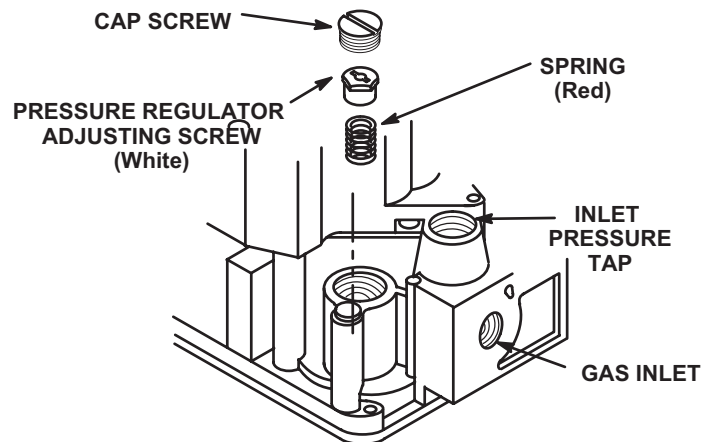
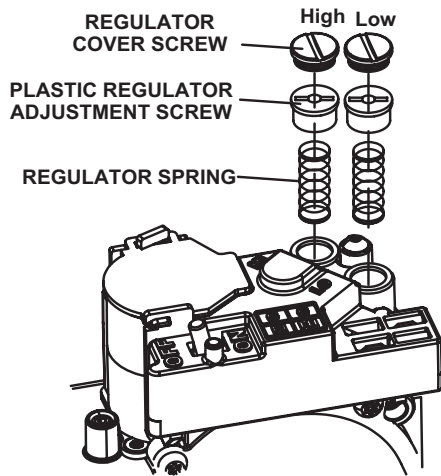
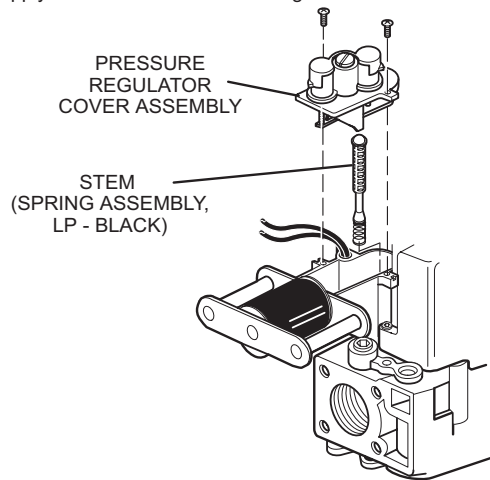

Figure 6
Figure 7
Figure 8
- 6 - Install spring kit as shown in figure 6 for single-stage gas valves, figure 7 for two-stage and four-stage White Rodgers gas valves, and figure 8 for two-stage Honeywell gas valves. Also refer to the manufacturer's instructions provided with spring kit. When installing 14N21 kit, discard the unused spring kit.